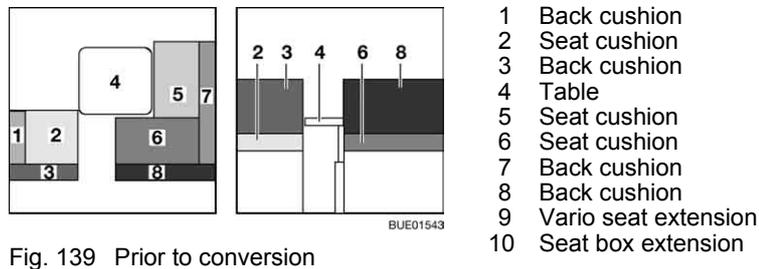

Fig. 139 Prior to conversion
- Convert the table (Fig. 139,4) to a bed foundation (see section 6.12).
- Remove the back cushion (Fig. 139,1) and lay it aside.